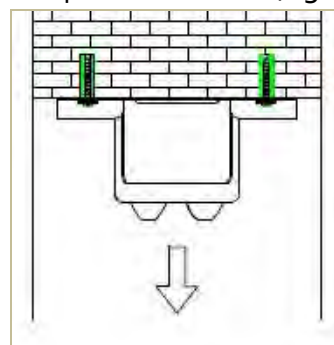

Fig 3
- (2) For cement ceiling, first use $\phi 8\text{mm}$ impact drilling bit to drill two holes to fit the expansion screws, then secure the bracket on the ceiling by tightening M6 expansion screws. (Fig 3)